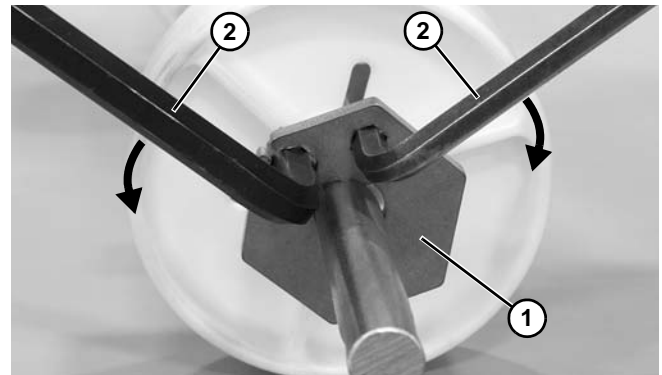

Figure 17
- c. To lock the retainer plate (Figure 17, item 1) in place, move the wrenches (Figure 17, item 2) away from each other.